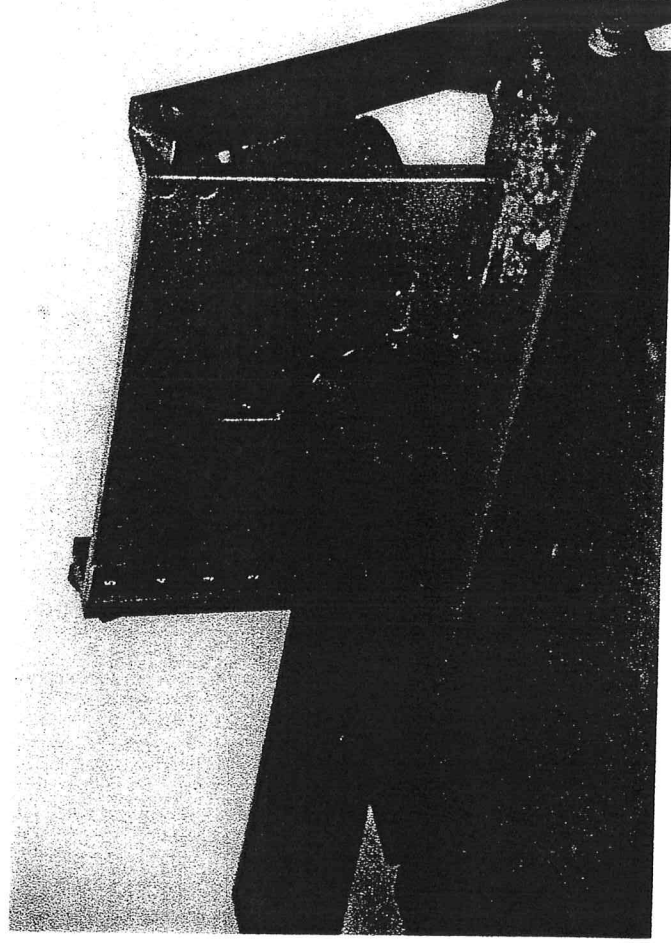

Fig. 20
2. Center bit in leg. Cut sockets in two adjacent sides. (fig. 20)